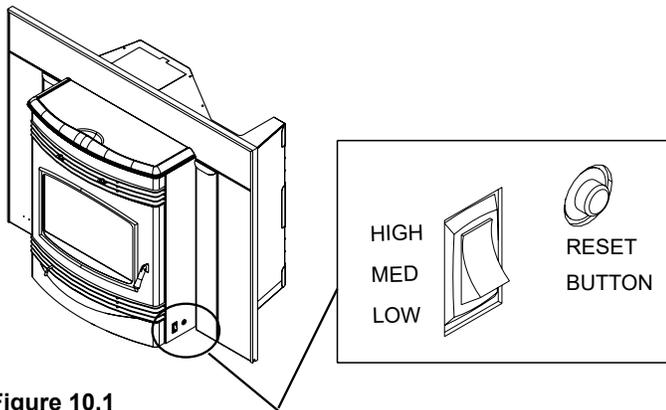
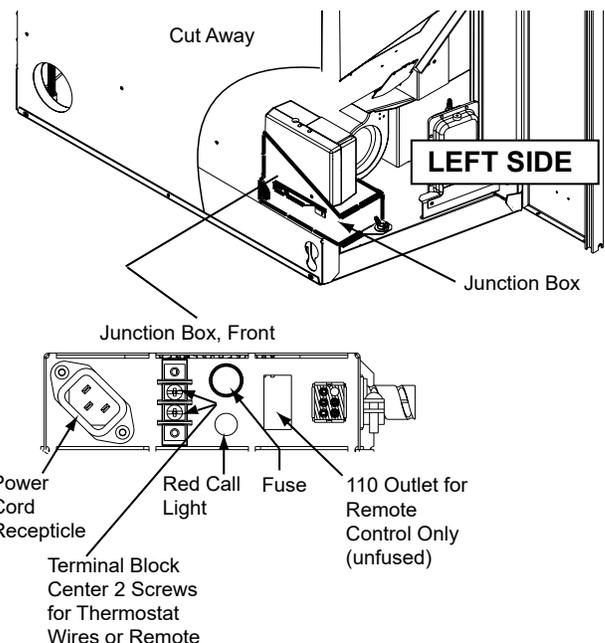

Figure 10.1
Figure 10.2
This appliance is equipped with a heat output control switch that has three settings or burn rates; low, medium and high (**Figure 10.1**). The appliance will turn on and off as the thermostat demands. When the thermostat calls for heat, the appliance will always start up on High. After burning approximately 4 minutes, the appliance will then burn at the rate at which it was originally set. If the appliance is set at one of the lower settings, it will run quieter but takes longer to heat up an area than if it were set at a higher burn rate. Regardless of the burn rate, when the area is warm enough to satisfy the thermostat, the appliance will shut off.
3. Locate the heat output control switch on the lower right side of the firebox in front of the right access panel. Set to the HIGH setting and then adjust the thermostat to its highest setting. The red call light will be on which is located on the front of the junction box behind the left access panel. This indicates the thermostat is calling for heat (**Figure 10.2**).
3. Occasionally the appliance may run out of fuel and shut itself down. When this happens, the red call light will be on (**Figure 10.2 on page 10**). To restart it, fill the hopper and press the reset button (**Figure 10.1 on page 10**). When you press the reset button the red call light will go out. Release the button and the light will come back on. You should see a fire shortly. If not, follow **Starting Your First Fire on page 10**.